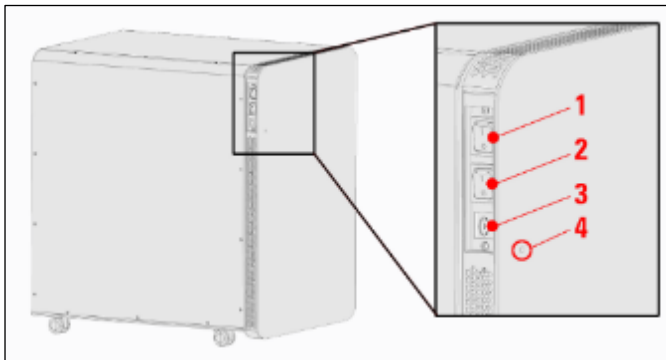

Figure 50: Supply unit
2. Switch on the supply unit (Figure 50, position 1). The power supplies and cooling of the system have now been started.
3. Switch on the power supply of the lasers (Figure 50, position 2).
4. To switch on the lasers in the supply unit, activate the detachable-key switch (see Figure 50, position 3). The emission warning indicator (Figure 50, position 4) is illuminated in white.
7. If you have a STELLARIS 8 CRS system, continue with item 8, otherwise with item 11.
8. Set the key switch for the supply unit/cooling of the CRS laser to I (ON).